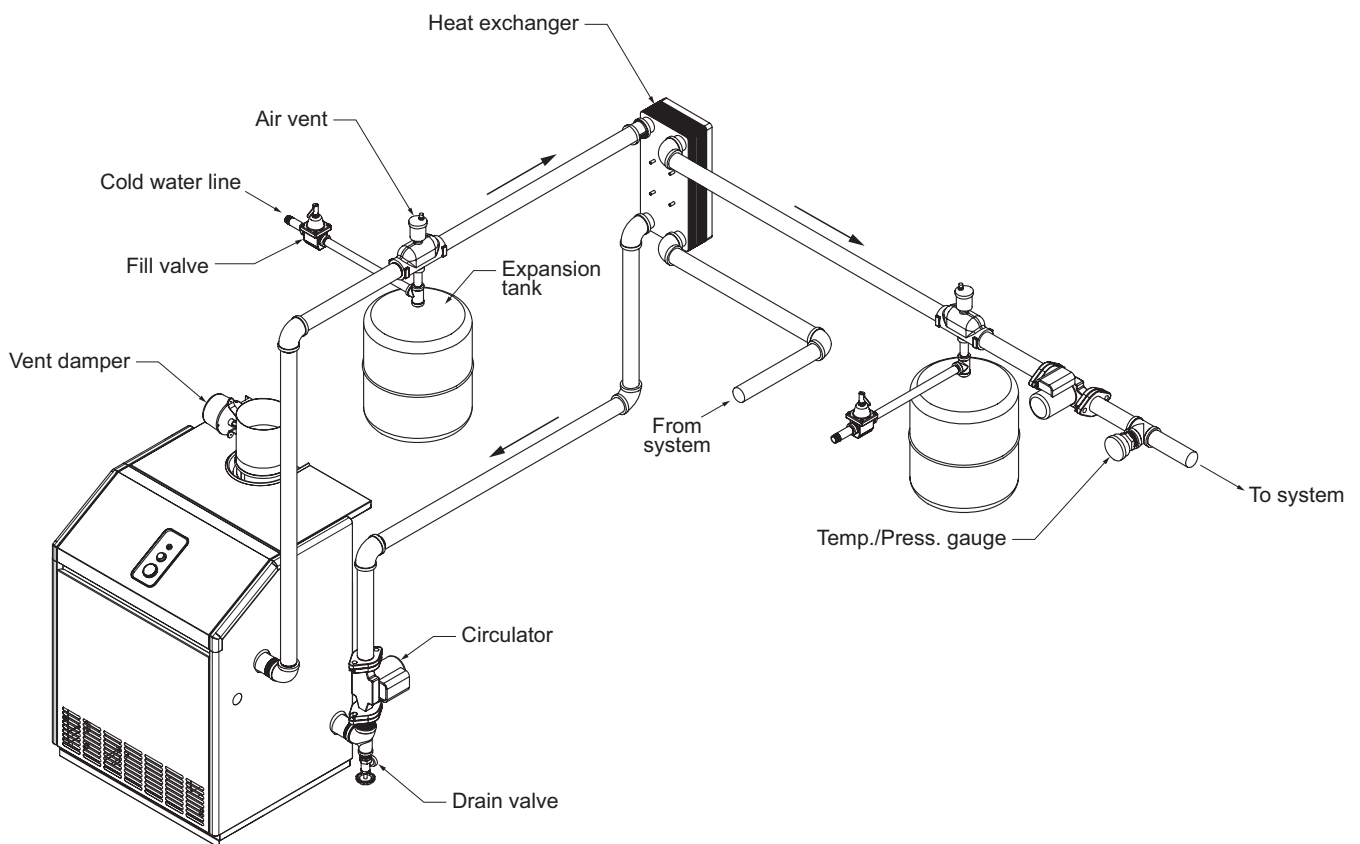

Figure 8.6 (Isolation of boiler from system with a heat exchanger)
- 4) Low Temperature Systems - Some systems, such as radiant tubing systems, require the system water temperature to be limited to a value below the temperature of the water leaving the KAPPA R. These systems also typically have return temperatures well below the 120°F minimum. Figure 8.6 illustrates the use of a heat exchanger to connect the KAPPA R boiler to this type of system. The heat exchanger will permit the transfer of heat from the boiler water to the low temperature system while holding
If the boiler is to be used in such a system, it must be separated from the oxygenated water being heated with a heat exchanger as shown in Figure 8.6.